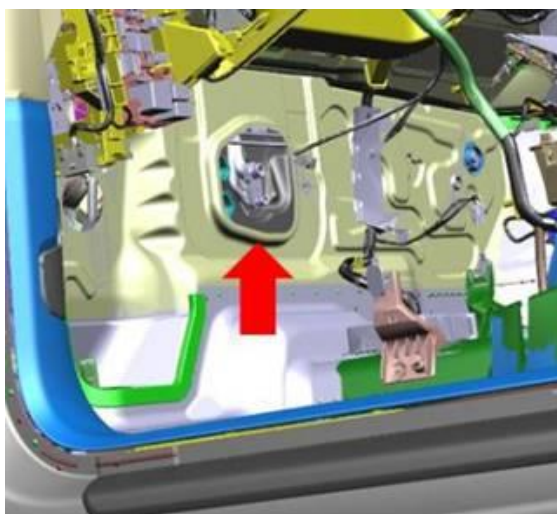

Figure 1. Water entry point (pass-through shown with seal removed).
1. If evidence of water in the footwell area is confirmed leave the front carpet pulled away from the bulkhead, then gain visual access to the HVAC pass-through inside the cabin and run water on the bulkhead sheet metal outside the vehicle in an attempt to duplicate the water leak in this area (Figure 1). If the water leak cannot be duplicated under these conditions be aware that this may not be the root cause of the leak and/or there may be an additional area of water intrusion not covered in this TSB. Diagnose accordingly.